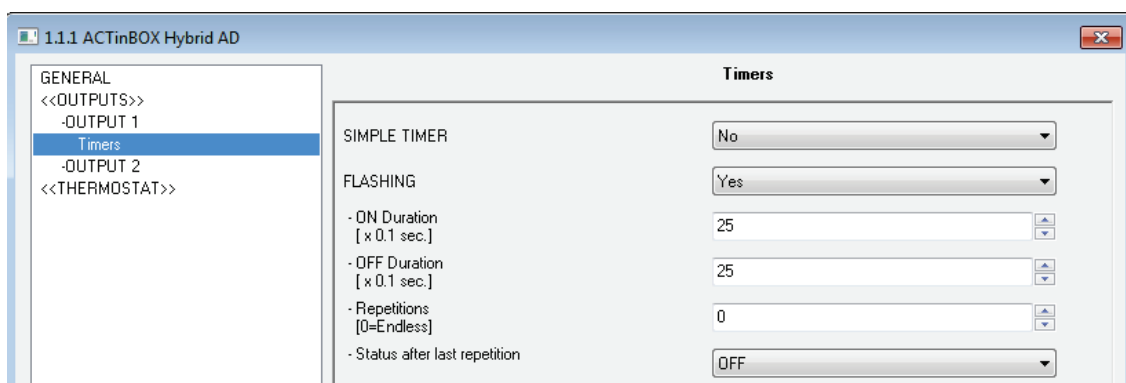

Figure 9 Flashing
- **Flashing** (Figure 9). This function allows the execution of alternating ON-OFF sequences when needed. It is possible to parameterize the ON and an OFF time length, as well as the number of repetitions (the value “0” makes the sequence endless until a “0” is received through the “[OX] Flashing” communication object). It is also possible to define the final status (ON or OFF) of the output after the last repetition.